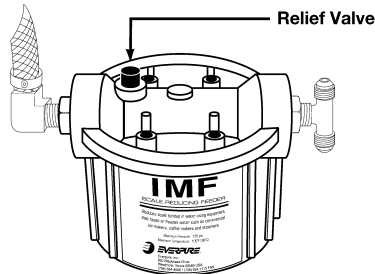

Figure 3 – Tri-Pack System
2. Relieve water pressure within the IMF by pressing the red pressure relief valve location on top of the filter head. (Figure 3)